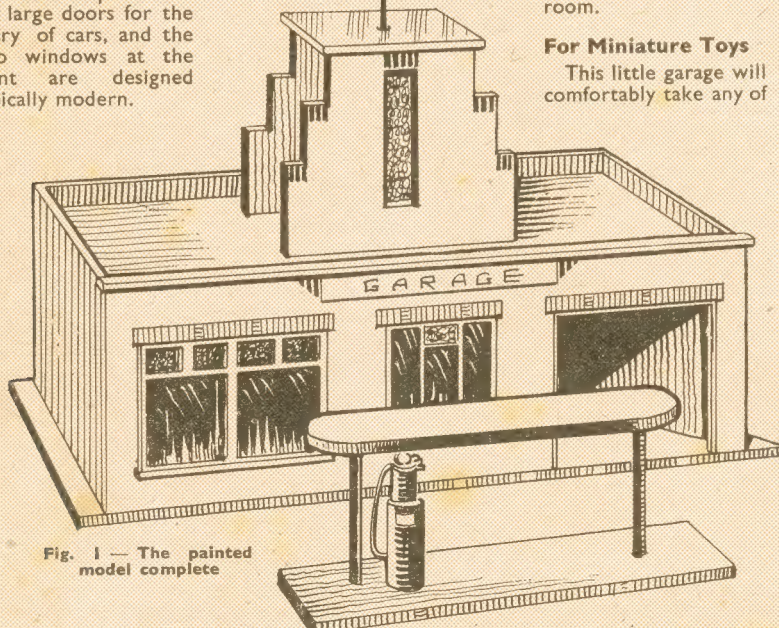

Fig. 1 - The painted model complete
**W**E give this week details and full description of the toy model Garage, shown at Fig. 1. This, as will be seen, is of quite the modern type of building, square, and plain in character and, therefore, simple in construction and assembly. On plan, the building measures 18ins. long by 8ins. wide and it stands 11ins. high.